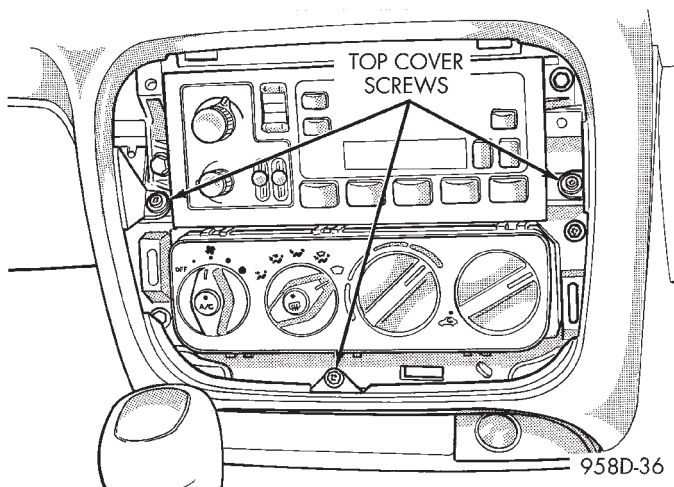

Fig. 53 Instrument Panel Top Cover—Center
- (4) Remove screws holding instrument panel top cover to center of instrument panel (Fig. 53).